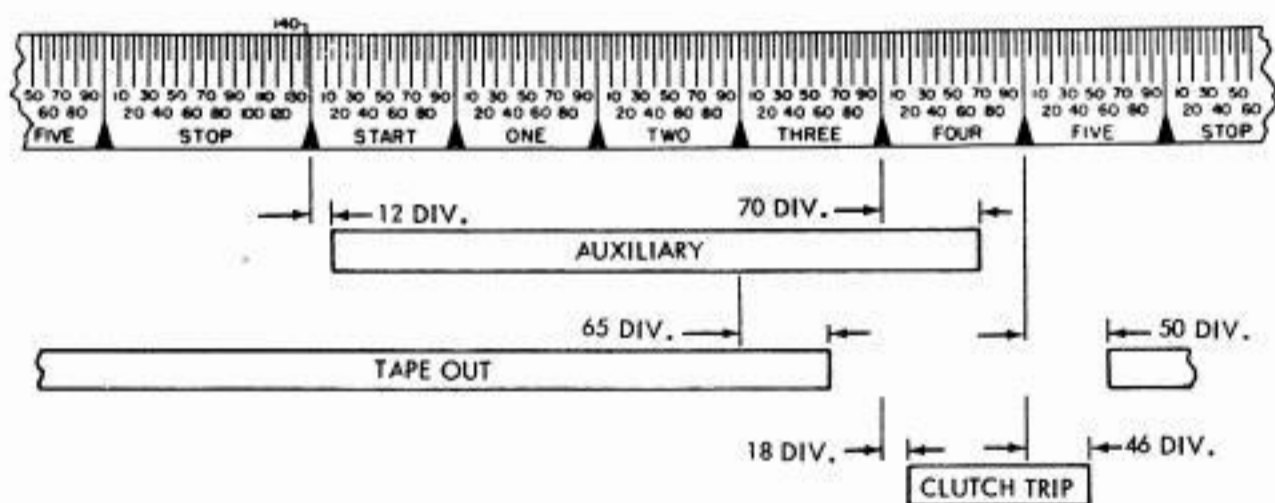

Fig. 6 — Pulse Length Requirements for Storing Switch Auxiliary Contacts (28B Unit)
(3) With test set connected to tape-out contact or 6th pin contact of **28B unit** and with no tape in the pivoted head transmitter, contact shall **close** at 50 ± 30 divisions in No. 5 pulse segment of test-set scale and **open** at 65 ± 30 divisions in No. 3 pulse segment of test-set scale. (See Fig. 6.)